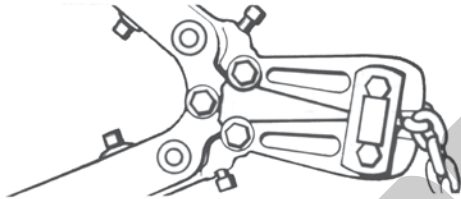

Figure 15. Cutting Chain with a Bolt Cutter
3. Use a bolt cutter (Figure 15) similar to the H.K. Porter No. 0590MTC with special cutter jaws for cutting hardened chain (25.4mm-1 inch) long cutting edge.